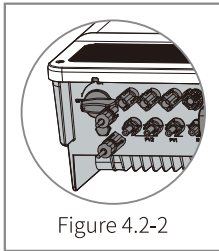

Figure 4.2-2
- **PV input connection:** Confirm the connection between ET and PV panels: polarities (+/-) are not reversed, refer to figure 4.2-2.